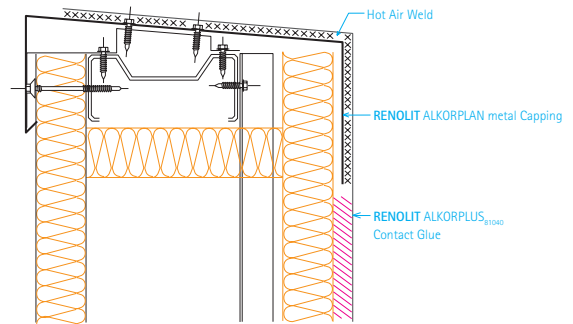

fig. 5: Double-sided gluing of parapets
• Parapets can also be adhered to achieve a wind-tight detail (see fig. 5). Here, the **RENOLIT ALKORPLUS₈₁₀₄₀** contact glue is applied to the entire surface of both membrane and upstand with a minimum consumption of 2 x 150 g/m². The parapet will have an **RENOLIT ALKORPLAN** metal trim, but compressive foam and intermediate fastening can be omitted.